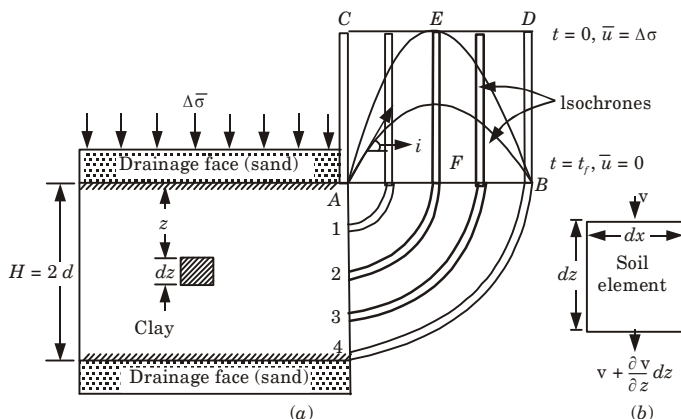

Fig. 12. One dimensional consolidation.
1. Fig. 12, shows a clay layer of thickness H , sandwiched between two layers of sand which serves as drainage faces.